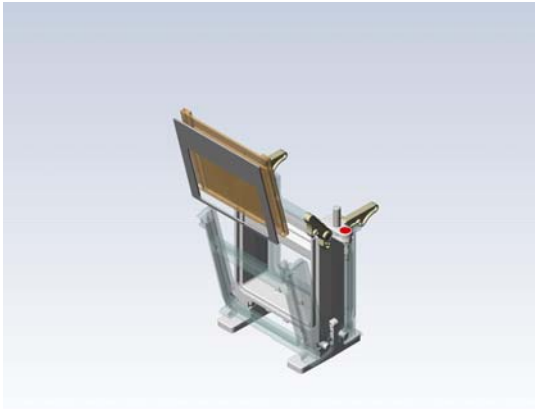

Figure 4
5. If running one gel, slide the blank plate into the side without the gel. If running a 9 cm x 10 cm cassette, insert the 9 cm gel adaptor, as shown in figure 4.